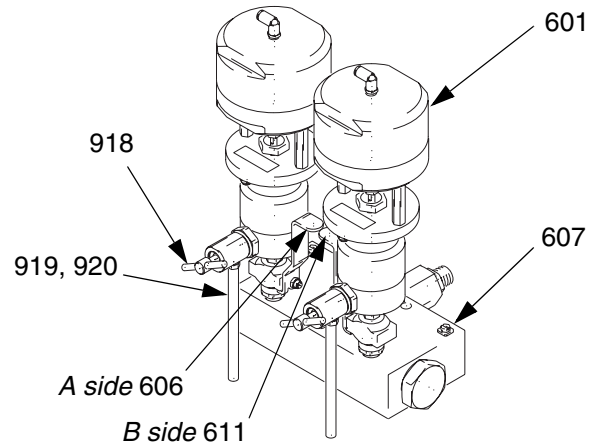

FIG. 7
Install sampling valves (918) into the metering valves (601). Install barb fitting (919) and tubing (920) into each sampling valve. FIG. 7.
1. Remove metering valves (601) and shutoff valves (606, 611) from fluid manifold (607). FIG. 7.